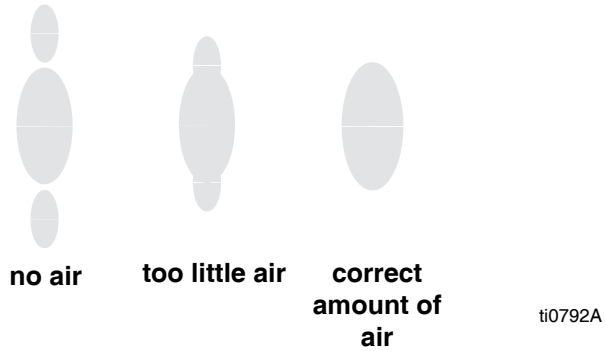

FIG. 7. Spray Pattern Problems
2. See FIG. 7. Set atomizing air pressure at about 5 psi (0.35 bar, 35 kPa) when triggered. Check spray pattern, then slowly increase air pressure until tails are completely atomized and pulled into spray pattern. Do not exceed 100 psi (0.7 MPa, 7 bar) air pressure to gun.
- See FIG. 7. For narrower pattern, turn pattern adjustment valve knob (AA) counterclockwise (out). If pattern is still not narrow enough, increase air pressure to gun slightly or use different size tip.